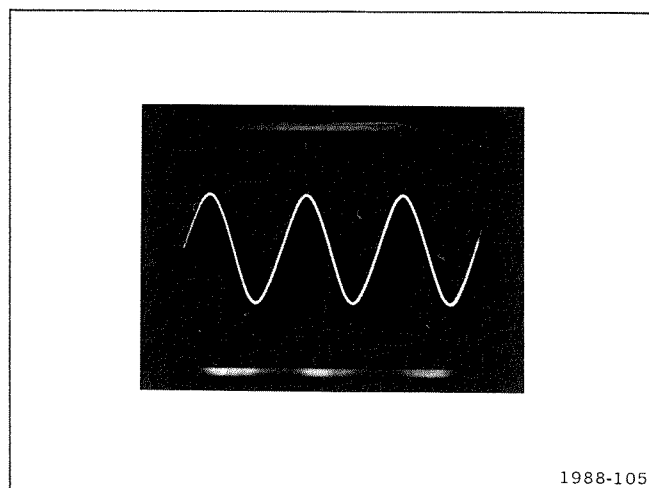

Figure 4-7. Waveform at TP1234 on the Power-Supply Inverter board with the line voltage at about 20 V.
6. If no burst waveform occurred in part 4, repeat part 1 of this step. Then remove the current probe from the 7834 and the test oscilloscope. Connect a 10X voltage probe from the test oscilloscope to TP1234 on the Power-Supply Inverter board (see Fig. 8-17). Set the variable autotransformer for 20 volts and check for a line ripple waveform which is about dc centered (see Fig. 4-7). If the waveform is not centered, check Q1246, CR1232, CR1240, CR1242, CR1249, and CR1244 for shorts or leakage.